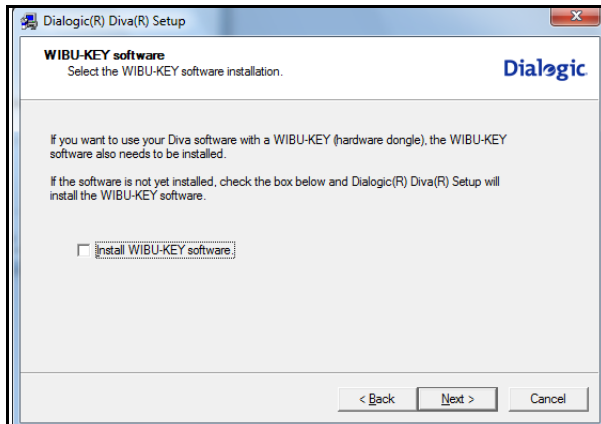

Figure 32: WIBU-KEY Software
19. Click **Next** (Figure 32 below).